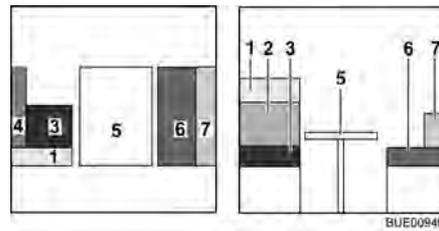

Fig. 108 Prior to conversion
- Convert the table (Fig. 108,5) to a bed foundation (see section 6.10).
- Lay the two back cushions (Fig. 108,1 and 2) aside.
- Lay the side cushion (Fig. 108,4) aside.